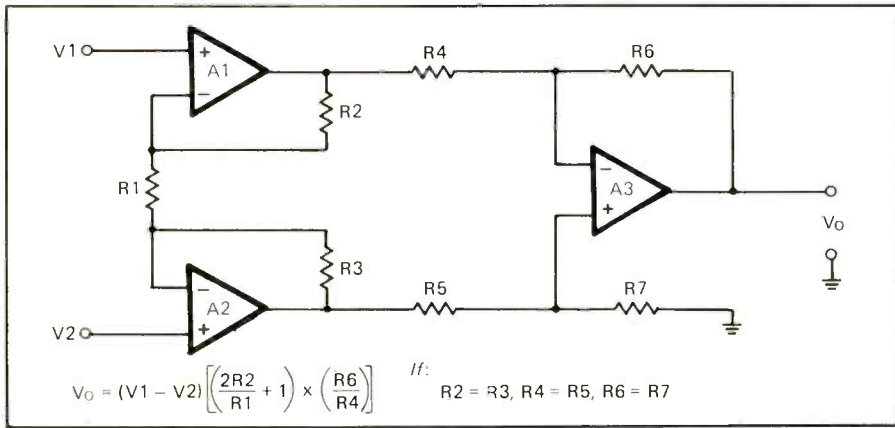

Fig. 2. The instrumentation amplifier provides an extremely high input impedance, high possible gain, and easy design. The gain equation is shown at bottom.
tion Amplifier (IA) circuit shown in Fig. 2. The IA provides an extremely high input impedance (similar to the noninverting follower circuits), a high possible gain, and easy design. The gain equation for this circuit is shown in Fig. 2.
The IA circuit shown in Fig. 2 consists of two sections: A1 - A2 and A3. Amplifier A3 forms a simple dc differential amplifier such as shown in Fig. 2, and obeys the same rules. The A1 - A2 amplifier is a differential-noninverting-input-with-differential-output stage. By cascading these two forms of amplifier we obtain the instrumentation amplifier.
In many cases, where variable or adjustable gain is required, we leave all resistors constant except R_1 . We must be careful, however, because R_1 appears in the denominator of the equation in Fig. 2. This location means that the gain can be very, very large when the resistance of R_1 drops close to zero. In some cases, the designer will place a small-value fixed resistor in series with a variable resistor (potentiometer) to adjust gain, but limit it to a maximum.
For a long time, the only additional advances were that op-amps became better and better (they became nearer the ideal op-amp of textbooks). While that was an exciting development, it was not a really new device. The big breakthrough came when the analog device designers made an integrated-circuit version of Fig. 2, the integrated-circuit instrumentation amplifier (ICIA).
The INA-101 is basically a low-noise, low-input bias current integrated circuit version of the IA of Fig. 2. The resistors labeled R2 and R3 in Fig. 2 are 20 kohms, hence the "40k" term in Fig. 4.